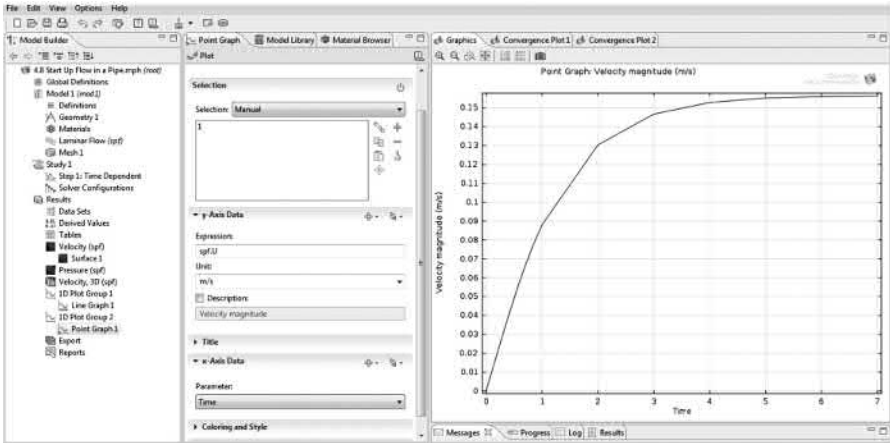

FIGURE 4.14 Velocity at  $r = 0$  and  $z = 0$ .
- Choose the point at  $r = 0, z = 0$  on the rectangle graph. Click on the “+” sign at the top right corner, this will add *point 1* in the *Selection* tab. Set the *x-axis* data as *Parameter: Time*. Click on *Plot* icon in the *Point Graph*. A graph will appear giving the profile of *Velocity magnitude versus Time* for point 1. Figure 4.14 shows that steady state is reached within 7 s.